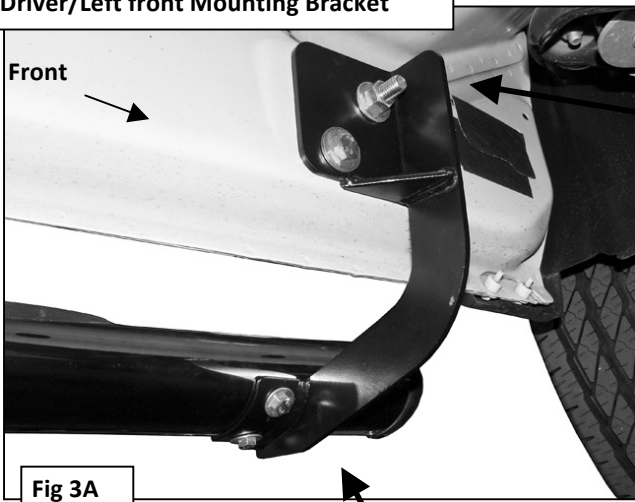

Fig 3A
- Select the driver side front Mounting Bracket and partially hang it from the Bolt and Nut Plate with (1) 12mm Flat Washer, (1) 12mm Lock Washer and (1) 12mm Hex Nut. Do not tighten hardware at this time. Line up the remaining hole in the Mounting Bracket with the hole in the inner body panel. Rotate the Bolt and Nut Plate until the threaded end (Nut) lines up with the hole in the Mounting Bracket. Secure with (1) 10mm x 35mm Hex Bolt, (1) 10mm Lock Washer and (1) 10mm Flat Washer, **(Figure 3A, 3B, 3C)**. Snug but do not tighten hardware at this time.
5. Once all of the brackets have been installed, with assistance, carefully position the driver Sidebar onto the Mounting Brackets. Partially attach the Sidebar to the cradles on the Mounting Brackets using the included (6) 8mm x 25mm Hex Head Bolts, (6) 8mm Lock Washers, and (6) 8mm Flat Washers, **(Figure 3A, 3B, 3C)**. Do not tighten hardware at this time.